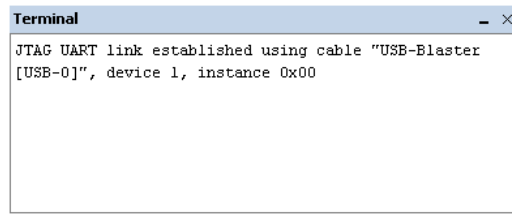

Figure 52. The **Terminal** window after a connection has been established to the JTAG UART on the board.
2. Once the program has been successfully loaded, the **Terminal** window will indicate that a connection has been established, similar to Figure 52.